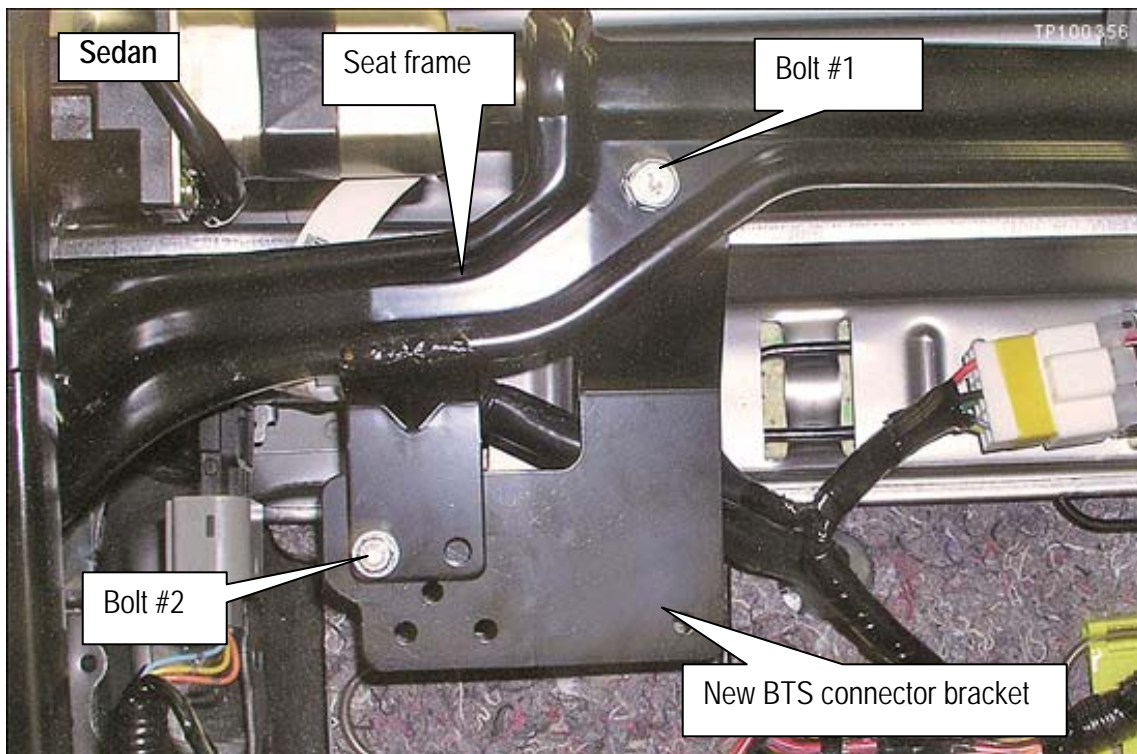

Figure 8
16. For **Sedan Only**: Install the new BTS connector bracket to the seat frame as shown in Figure 8 and torque the bolts: